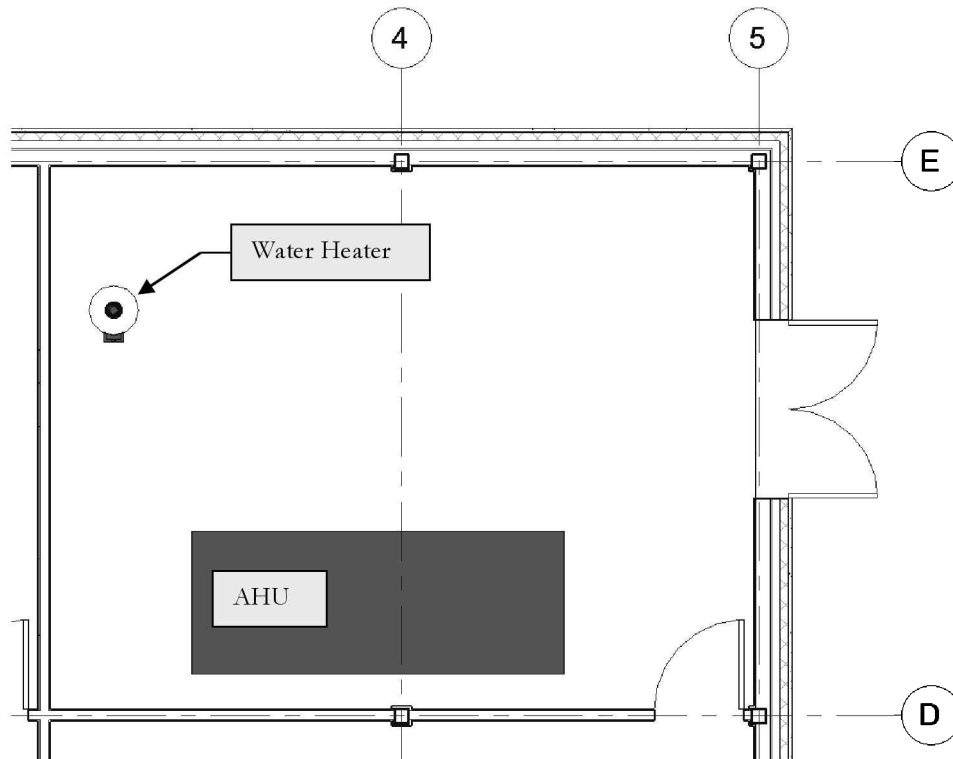

FIGURE 13-5.2 Level 1 – Domestic Water Floor Plan; water heater added
6. **Click** approximately as shown in Figure 13-5.2 to place the element.